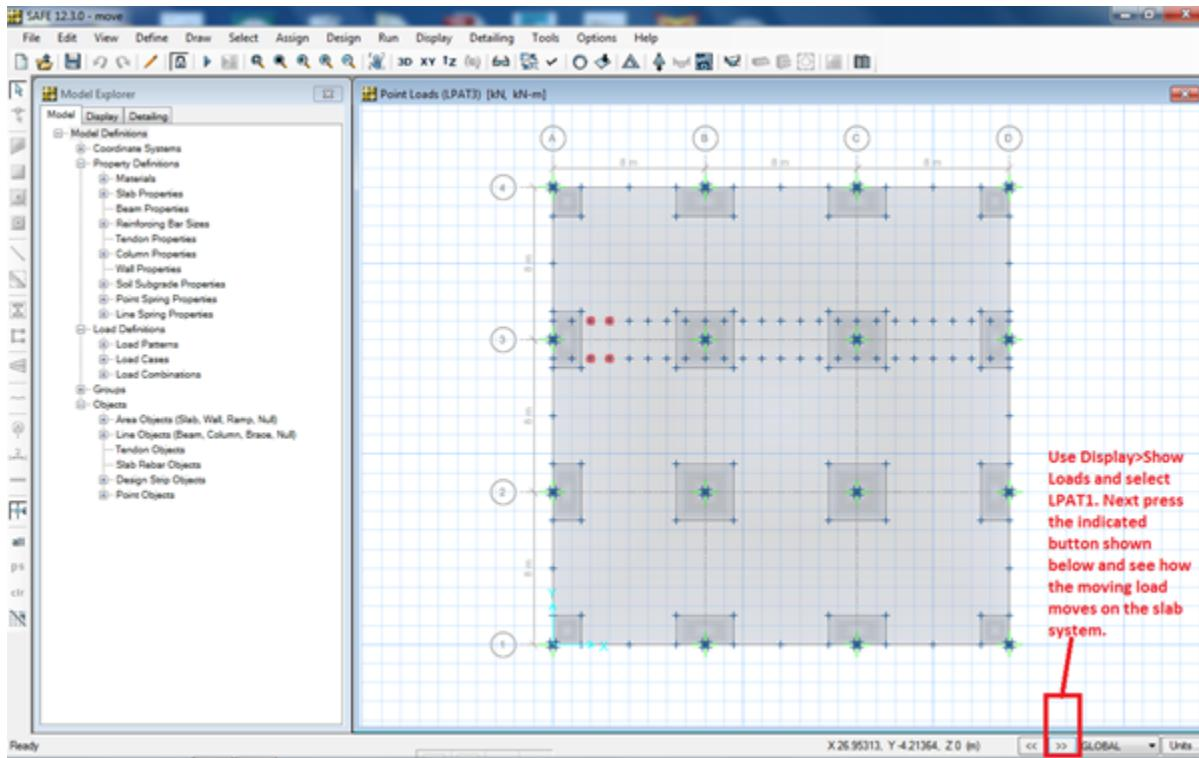

Figure 1 - Define nodes where vehicle response is to be computed
**Answer:** To simulate a four-wheel vehicle load traveling along design strip CSA3, two rows of joints are created. Assuming the vehicle travels the 24m length at a rate of 1 m/sec, and remains centered along the layout line, 25 pairs of joints and 24 **load patterns** represent the possible loading configurations taken at 1sec time steps. Depending on the length of the vehicle, two pairs of joints will be loaded at any given time step, as shown in Figure 1: